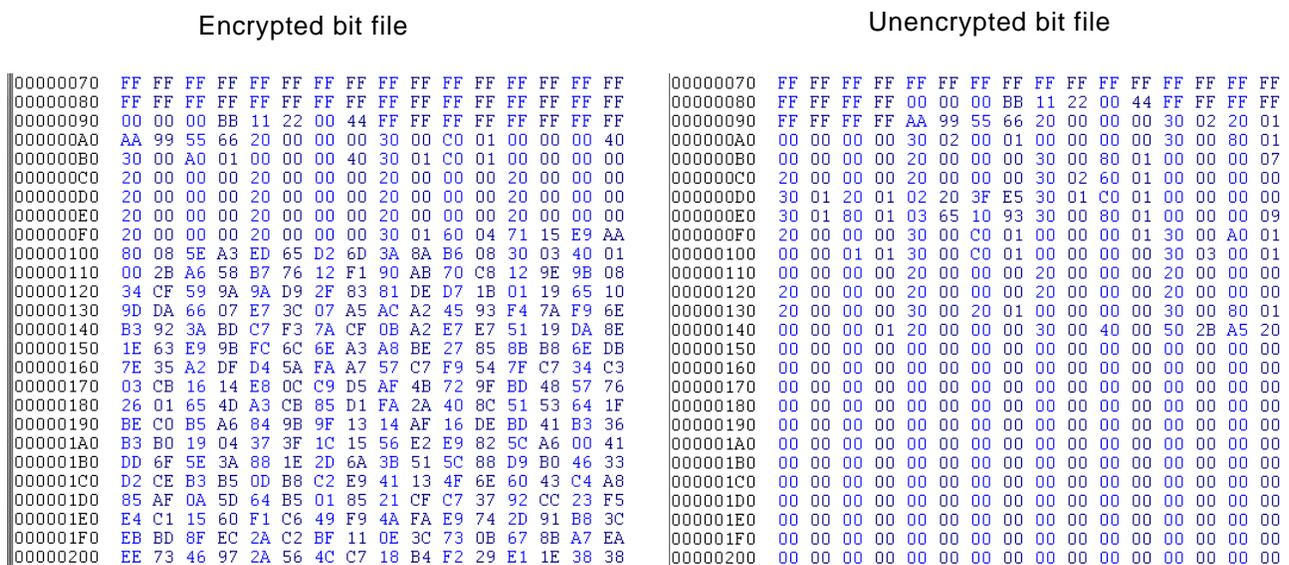

Figure 7: Encrypted and Unencrypted Bit Files
2. Review the generated bitstreams to validate encryption took place. (See Figure 7, page 15 for an example of encrypted and unencrypted bit files.)
The difference between an encrypted bit file and unencrypted bit file is shown in Figure 7.